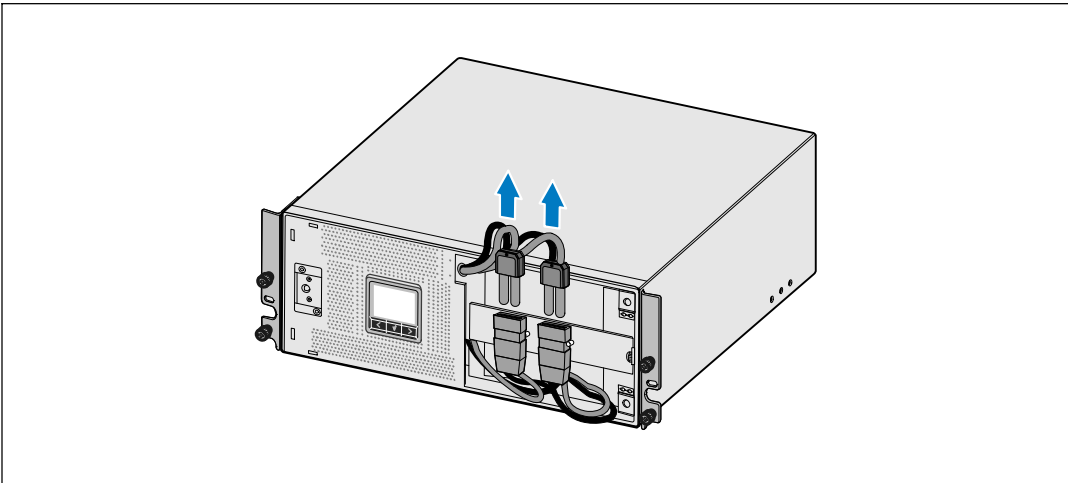

Figure 28. Disconnecting the Internal Battery Connector
- 4 Disconnect the internal battery connectors (see Figure 28).